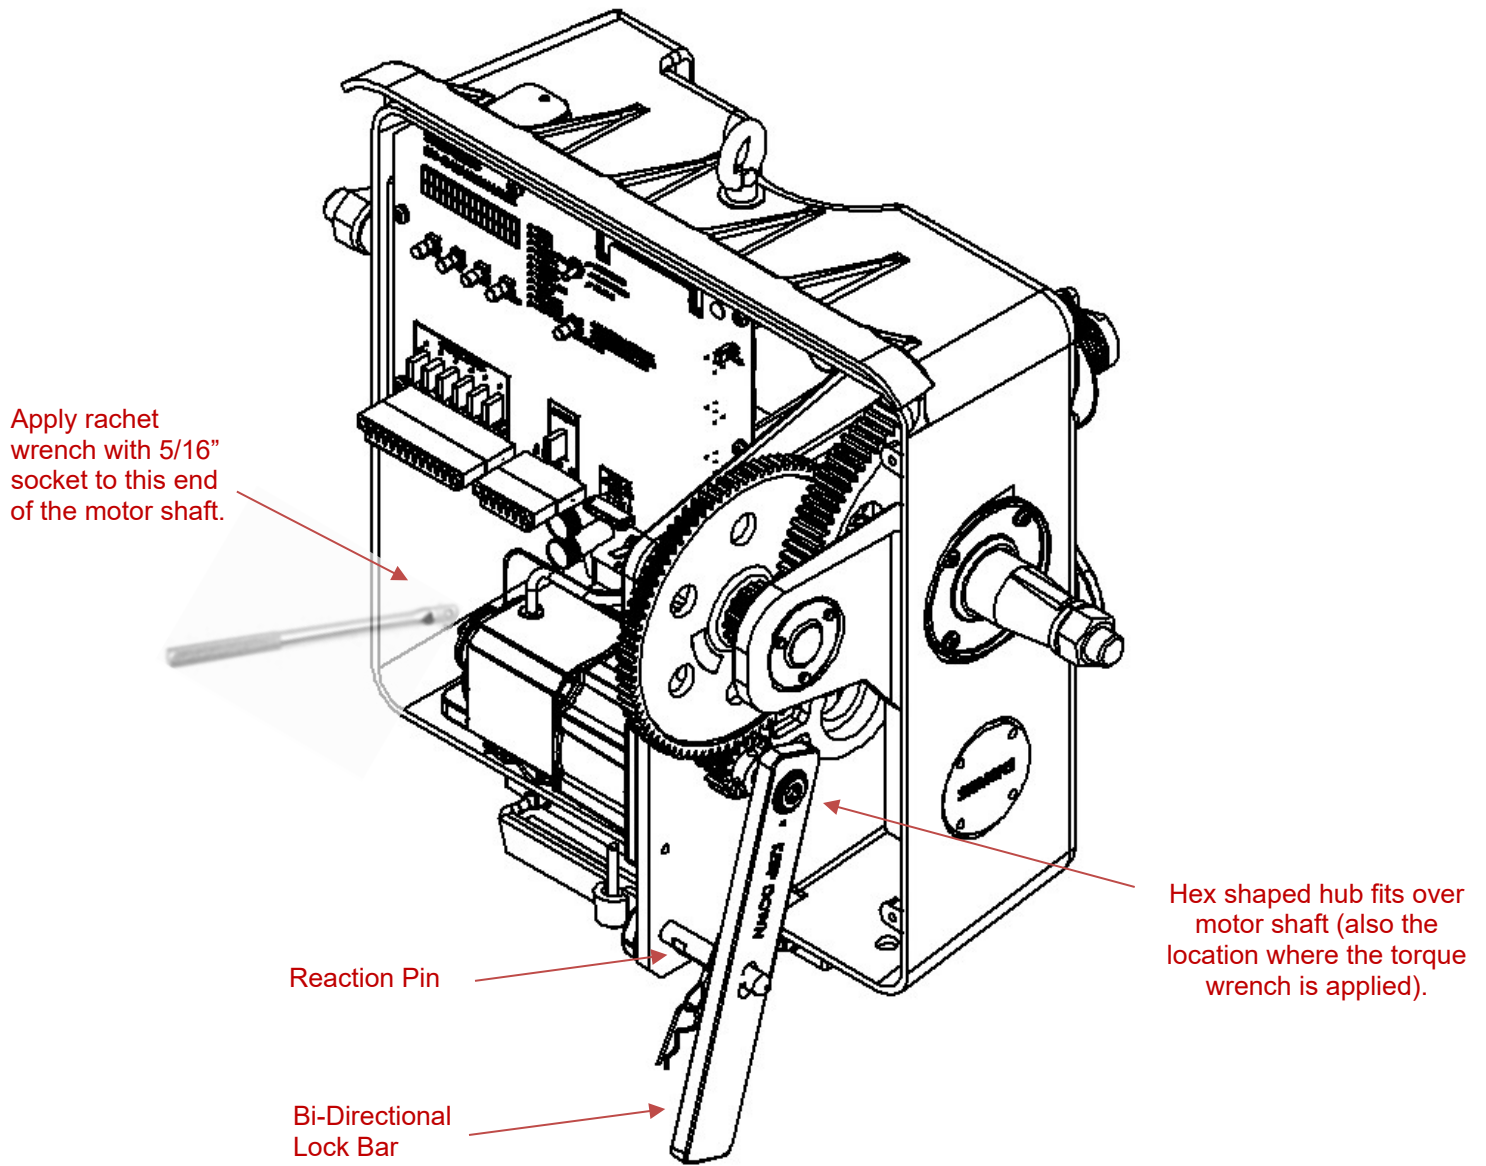

Figure 4-4 Hand Cranking Gate Mechanism
1. Install the torque wrench onto the 1/2" hex of the gearmotor output shaft (see Figure 4.4). This is the same location as where the lock bar is applied.
- i. With the gate arm in the horizontal position, install the lock bar onto the ½" hex of the gearmotor output shaft (see Figure 4.4).
- iv. Once the gate is in the vertical position, engage the slot in the lock bar with the reaction pin (see Figure 4.4).
- iii. Install the lock bar onto the ½" hex of the gearmotor output shaft, ensuring that the slot in the lock bar is engaged with the reaction pin (see Figure 4.4).
4. Install the torque wrench onto the $\frac{1}{2}$ " hex of the gearmotor output shaft (Figure 4.4).
9. Install the lock bar onto the $\frac{1}{2}$ " hex of the gearmotor output shaft and engage the slot in the lock bar with the reaction pin (Figure 4.4).